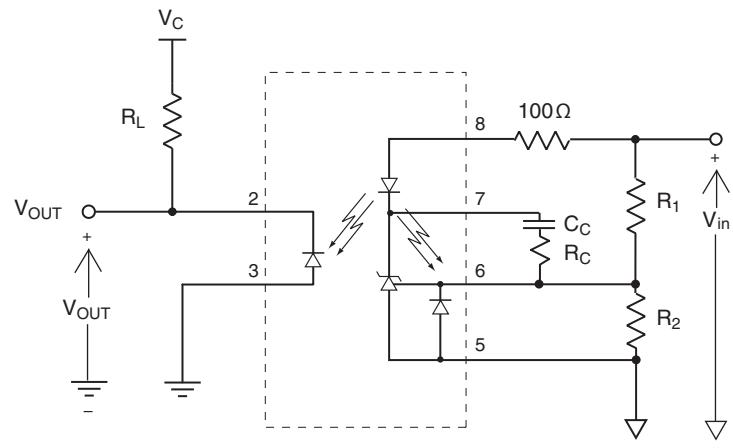

Fig. 6. Power Supply Feedback Application Circuit
2. The dynamic impedance is defined as $|Z_{OUT}| = \Delta V_{COMP}/\Delta I_{LED}$, for the application circuit in Figure 6, $|Z_{out}| = K_r R_i$
Setting the gain for the LIA120 is accomplished simply by setting two resistors. The application circuit in Figure 6 shows a resistor divider feeding the FB pin, so the operating conditions for the gain are governed by: